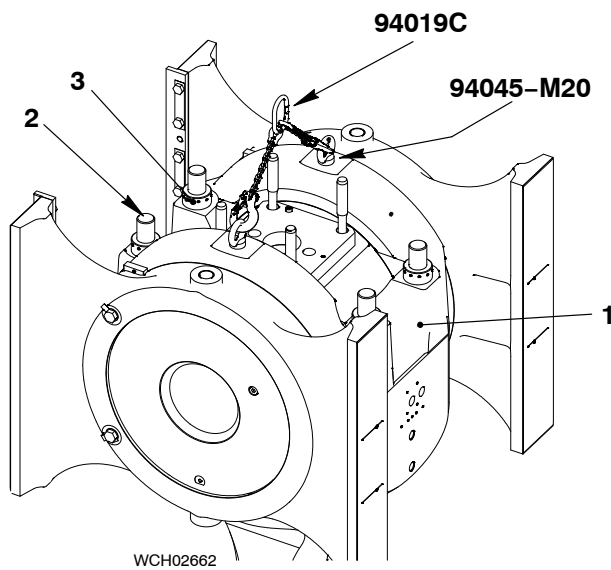

Fig. 2
- 1) Use the pre-tensioning jack (94315) to loosen the four round nuts (3, Fig. 2), refer to 9403-4.
- 2) Remove the four round nuts (3) from the elastic bolts (2).
- 3) Attach the two eye bolts (94045-M20) to the bearing cover (1).